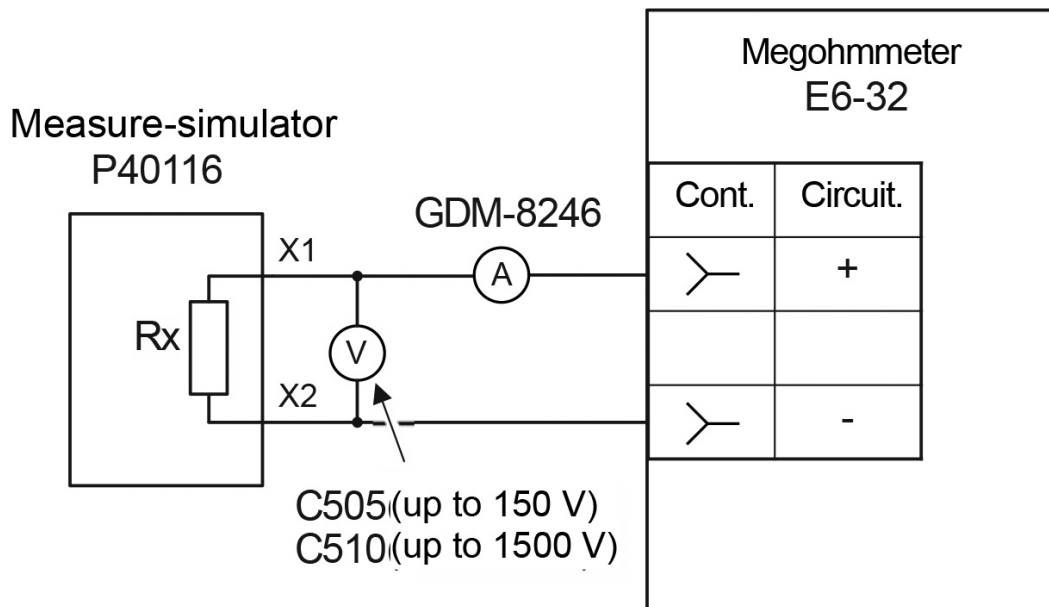

Figure 6.3 – Diagram for check of varistor voltage measurement error
- assemble the test setup in accordance with Figure 6.3;